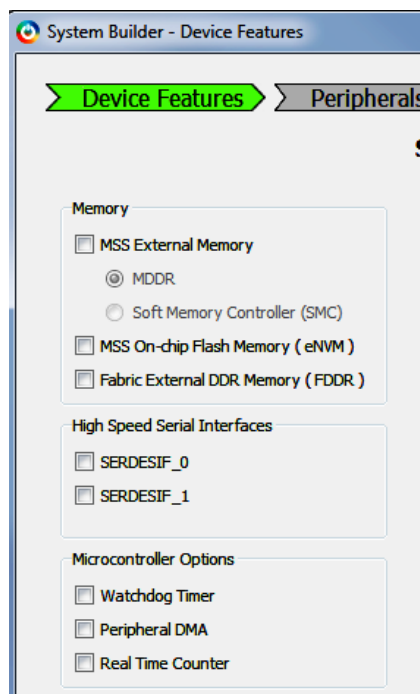

Figure 8 • System Builder - Device Features Window
- The **System Builder - Device Features** window is displayed as shown in Figure 8.